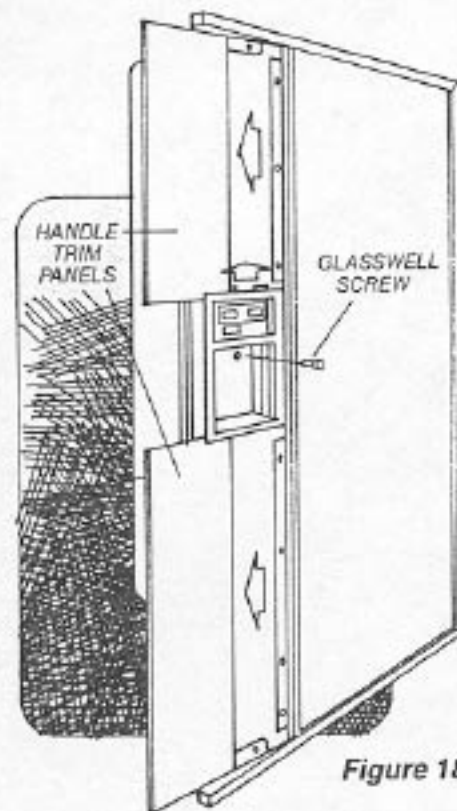

Figure 18
C) Remove the handle trim panels by sliding them out of the door(s). See Figure 18.
D) Next, remove the water and ice glasswell by removing the mounting screw. Then slide the glasswell up and pull out as in Figure 18.